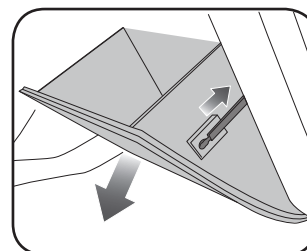

Fig. 1.9
9. Open the glove compartment and push up on the retaining clips securing it. Slide the control arm off the side of the glove compartment to allow it to open completely. (Fig. 1.9)